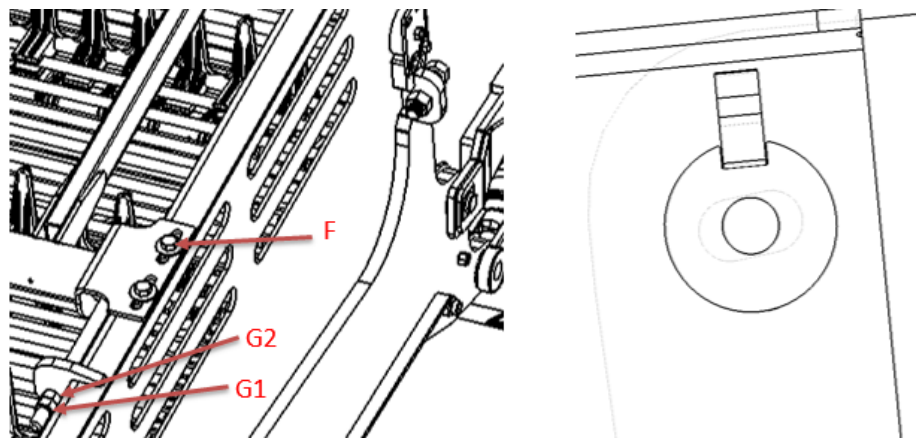

Figure 7-5: Tension System and Hole Line Up
2. Use the second $\frac{5}{8}$ " nut(G2) to line up the holes as shown in Figure 7-5 by either tightening the nut to draw the upper section of the elevator up or loosen to drop it down.